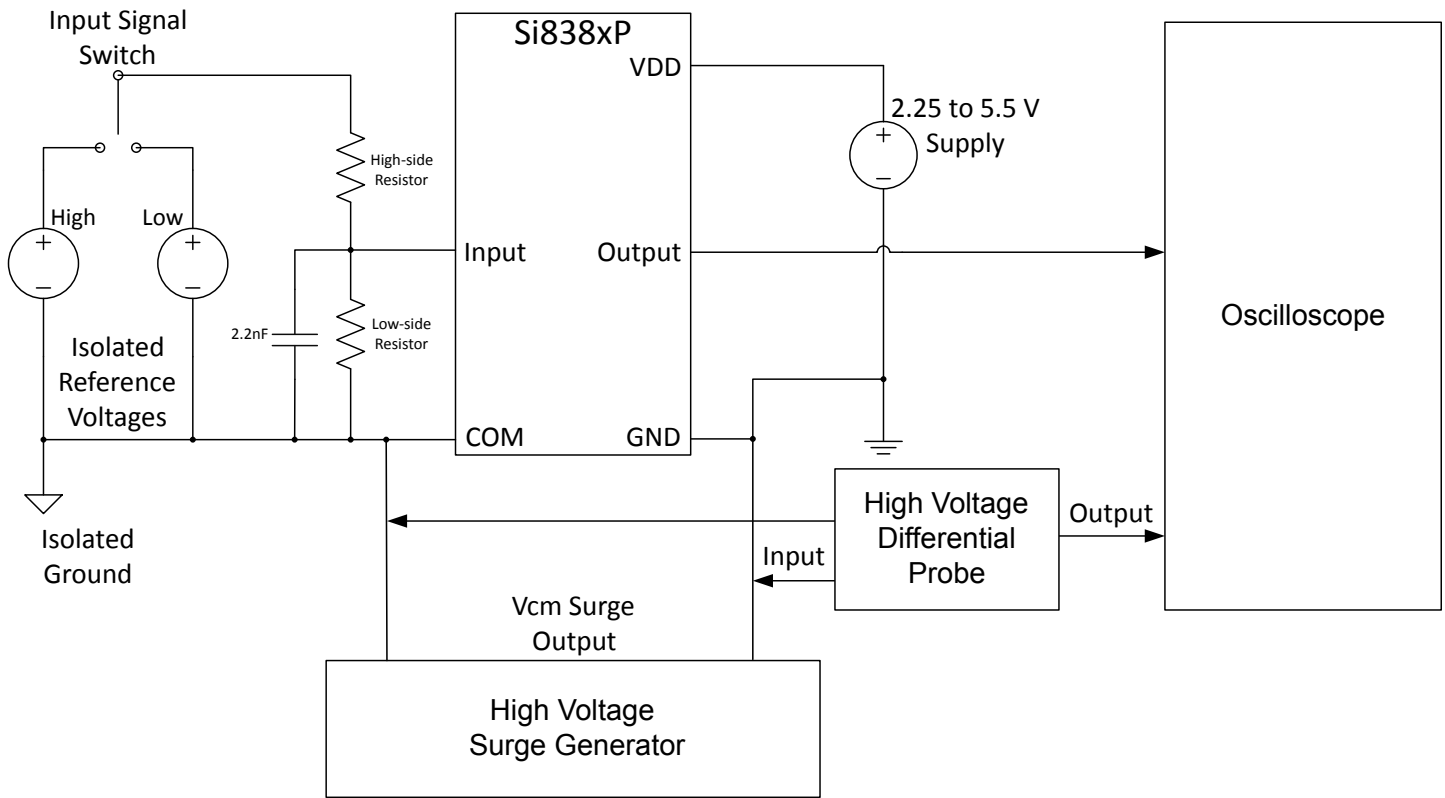

Figure 5.1. Common Mode Transient Immunity (CMTI) Measurement Circuit
- See Figure 5.1 Common Mode Transient Immunity \(CMTI\) Measurement Circuit on page 19 for CMTI test conditions.